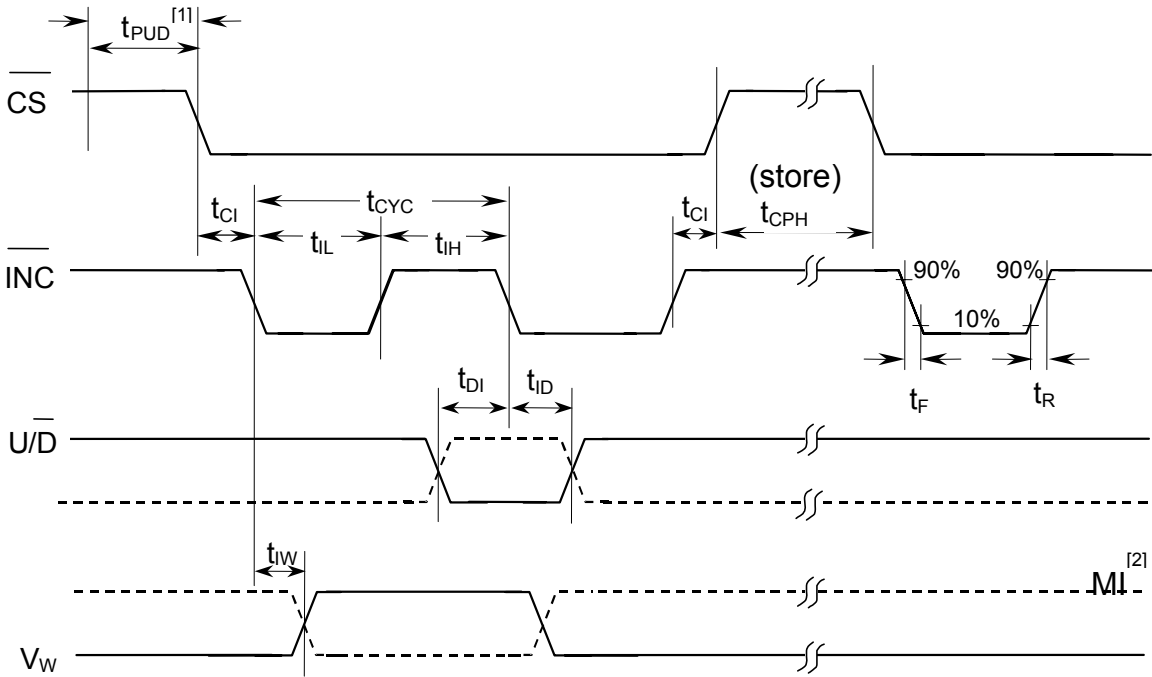

FIGURE 3 –WMS7110/1 TIMING DIAGRAM
- ^[2] MI in the AC Timing diagram (Figure 3) refers to the minimum incremental change in the wiper output due to a change in the wiper position.